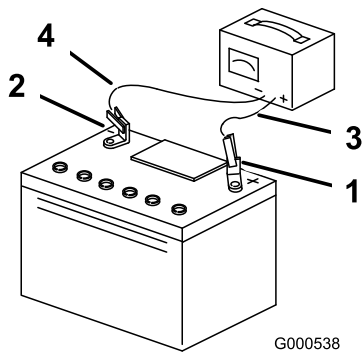

Figure 46
- When the battery is fully charged, unplug the charger from the electrical outlet, then disconnect the charger leads from the battery posts (Figure 46).